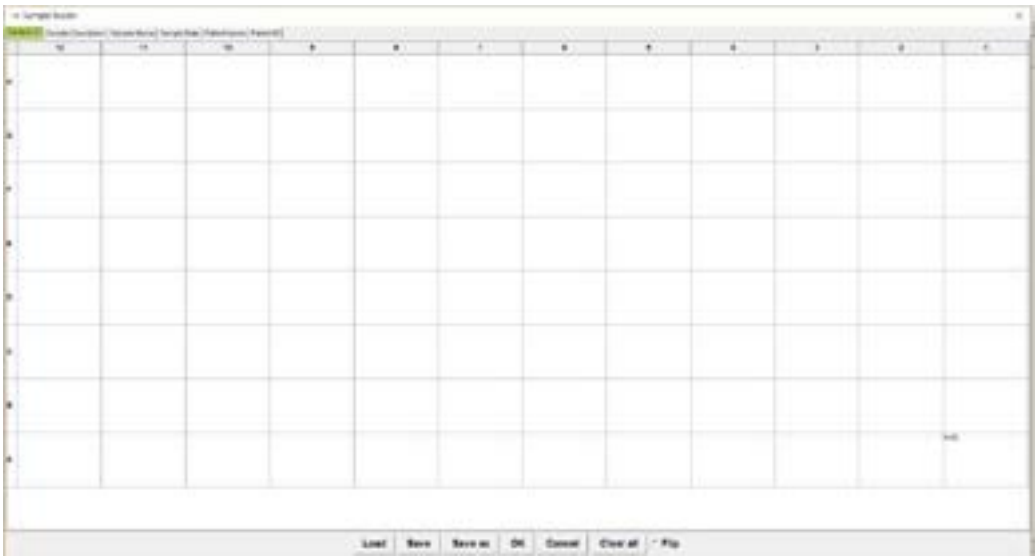

Figure 3-12 Sample Loader Window
Notes for samples can be edited on the Sample Loader Window (Figure 3-12). After clicking **Edit**, the Sample Loader Window will appear on the screen. **Load** to enter multiple sample description, **Clear All** to delete all the sample information, and **Save** to save the sample information after editing. After entering the information such as time and serial number, click **OK** to start the process.
**\*Note:** The information of the samples in the excel sheet needs to follow the sequence that shows in Figure 3-12. You can find an example file in the installation directory. The default workspace is C:\Users\<username>\Q-Analyzer CFR Mode\Sample.